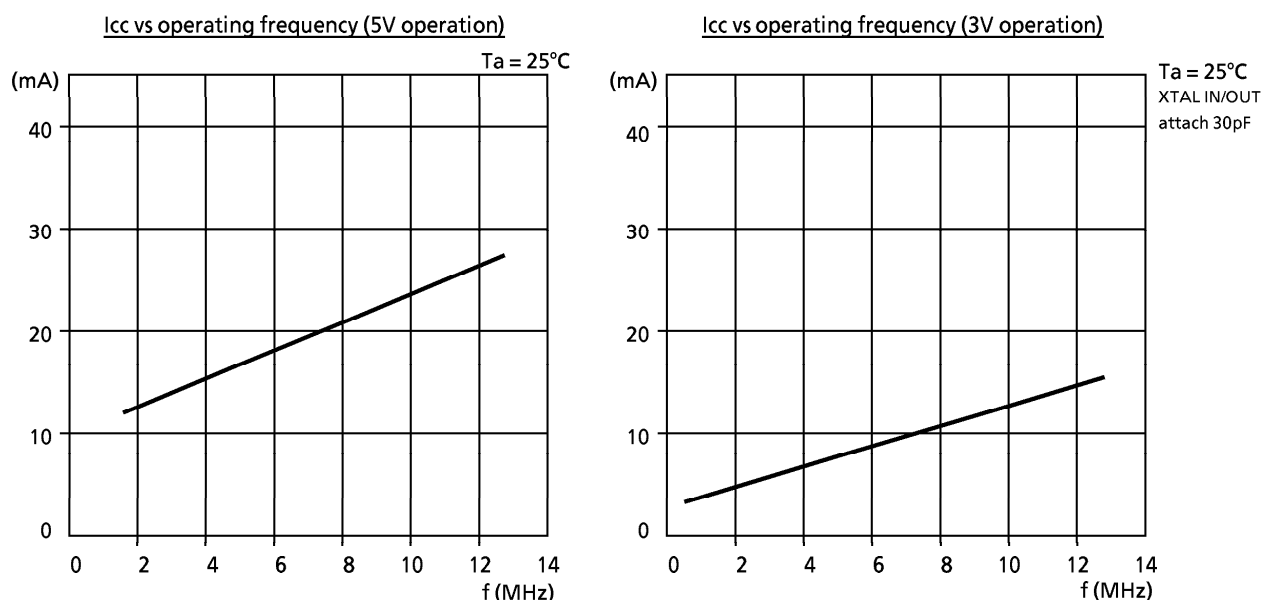

Figure 1.1 Typical Icc Data
- Low power consumption (See figure 1.1 Typical Icc Data)